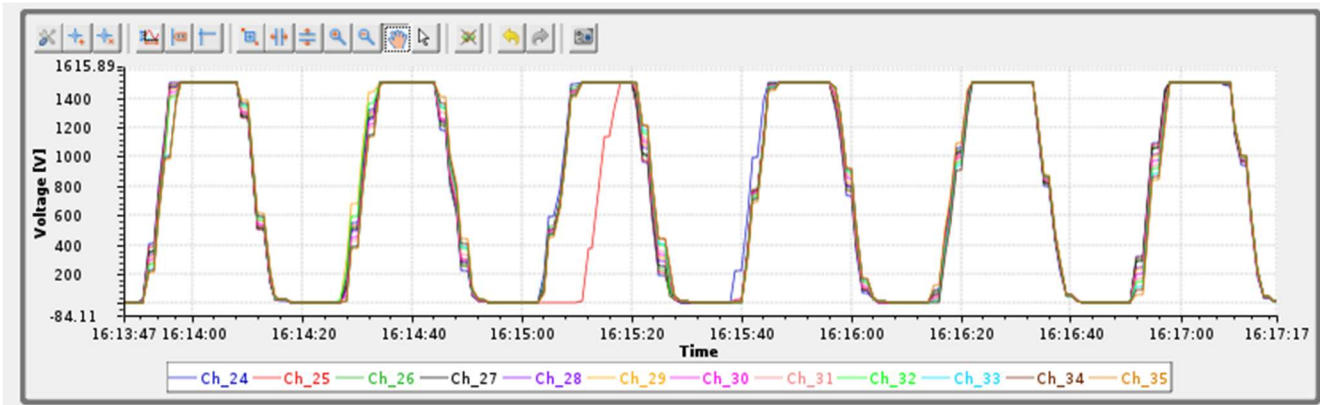
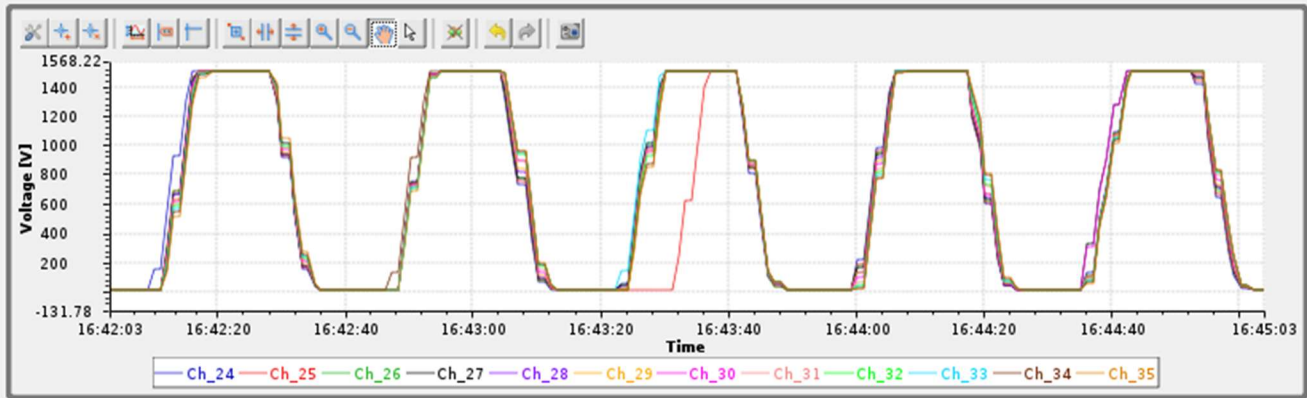

Fig.9 – HV CAEN – Voltage Ramp Test CSS BOY screen shows the first latency incident for channel 25. Channel 25 ramped up after ~ 9 s of P_w value was set to 1
Fig.12 – HV CAEN – Voltage Ramp Test CSS BOY screen shows the fourth latency incident for channel 25.
2. Channel 25 had a latency to ramp up and same behavior as mentioned channels in previous test, during the trial the latency for channel 25 was observed four times. See fig.9 to fig.12.